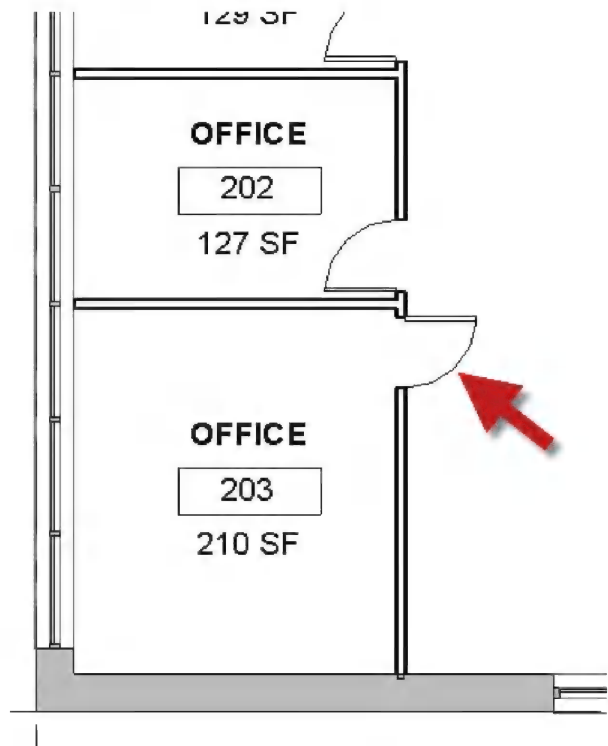

FIGURE 16-4.13 User A changed door swing
26. **USER A:** In the **Level 2 – New** floor plan, change the door swing in Office 203 as shown in Figure 16-4.13.